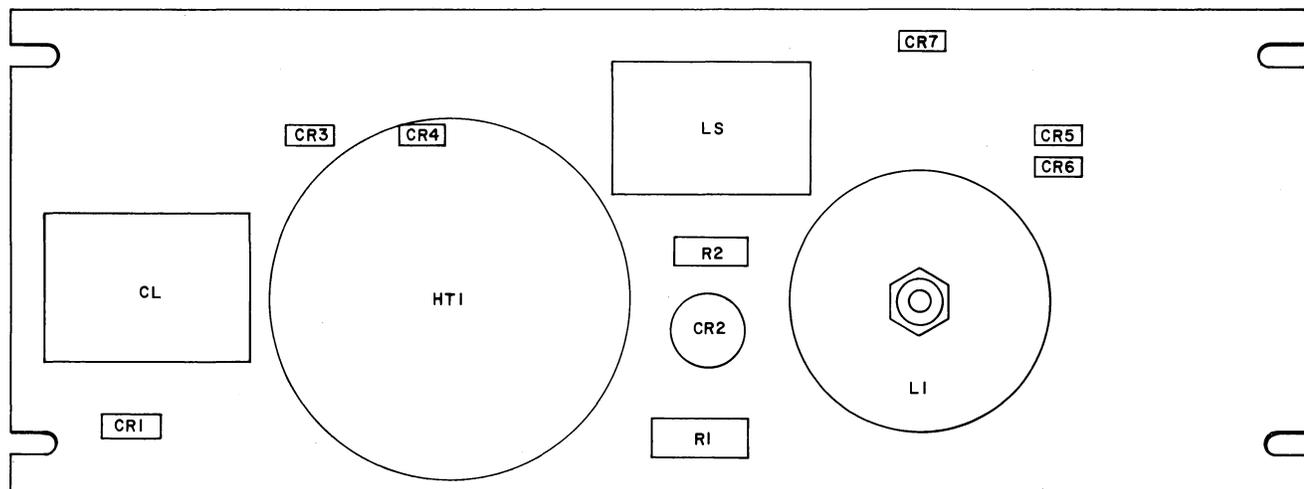

Fig. 24—CP BM1 Component Placement
6.04 Component placement on the circuit pack assemblies is shown in Fig. 17 through Fig. 24.